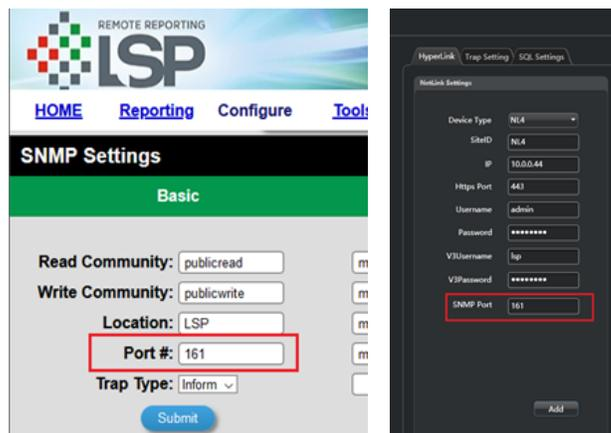

Figure 23
- Enter the SNMP Port (matching the SNMP port on the configure page of the NetLink). If the NetLink is translated via an IP converter, please configure the SNMP port to be accessible as a UDP port and link this port to the NetLink. (Figure 23)